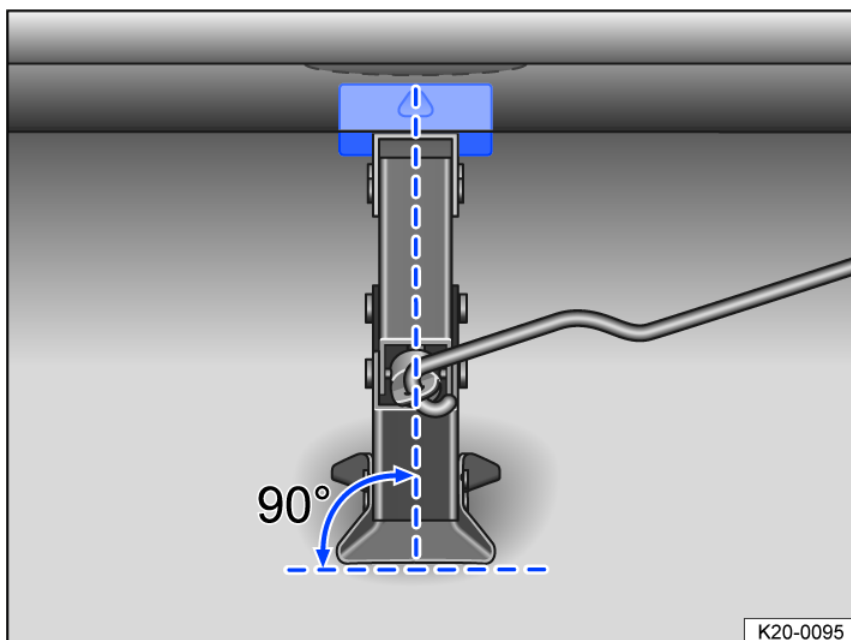

Fig. 177 Correct jack setup.
12. Make sure the entire base of the jack is seated securely on the ground and that the base of the jack is located exactly directly below the lift point *fig. 177* and *fig. 178*.